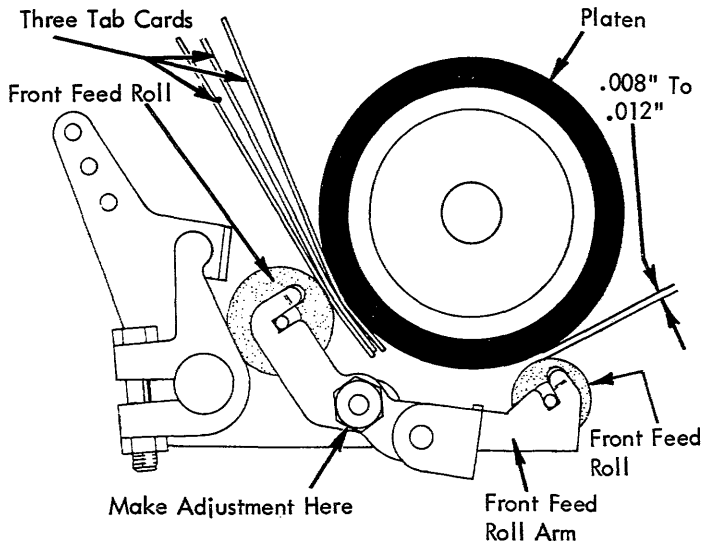

FIGURE 189. Feed Roll Adjusting Eccentrics (Old Style)
- a. Early - Adjust the eccentrics with the high points to the rear so that three tab cards inserted between the platen and the rear feed rolls will cause a clearance of .008" to .012" between the front feed rolls and the platen (Fig. 189). The clearance should be equal on both ends of the feed roll.